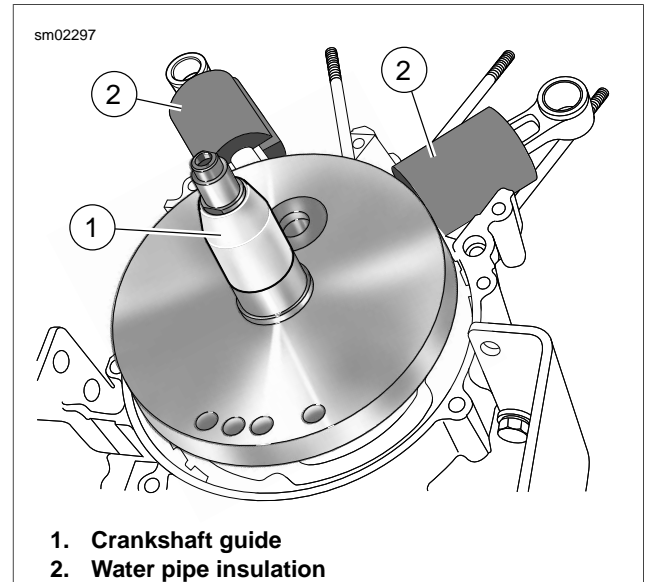

Figure 3-60. Crankshaft Guide (Part No. HD-42326-A)
7. See Figure 3-60. To facilitate assembly and prevent damage to the crankshaft (roller) bearing in the right crankcase half, place CRANKSHAFT GUIDE (1) (Part No. HD-42326-A) over end of crankshaft until it contacts shoulder on shaft.